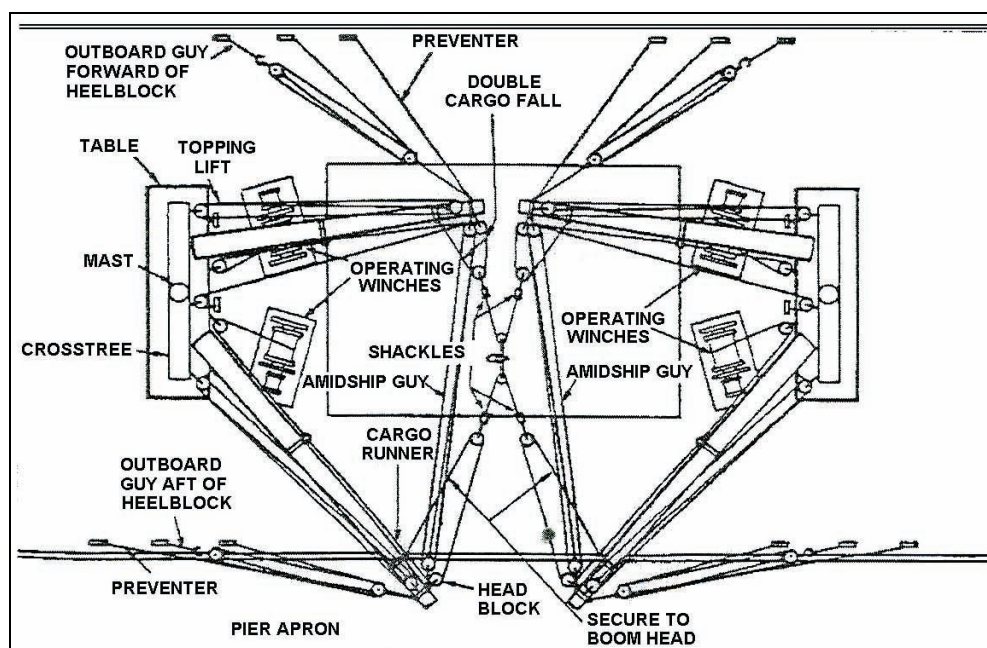

Figure 3-115. Rigging of Four Booms Doubled Up On a Double-rig Hatch
1. Execute the procedures required to direct the rigging of four booms doubled up on a double-rig hatch (see Figure 3-115).